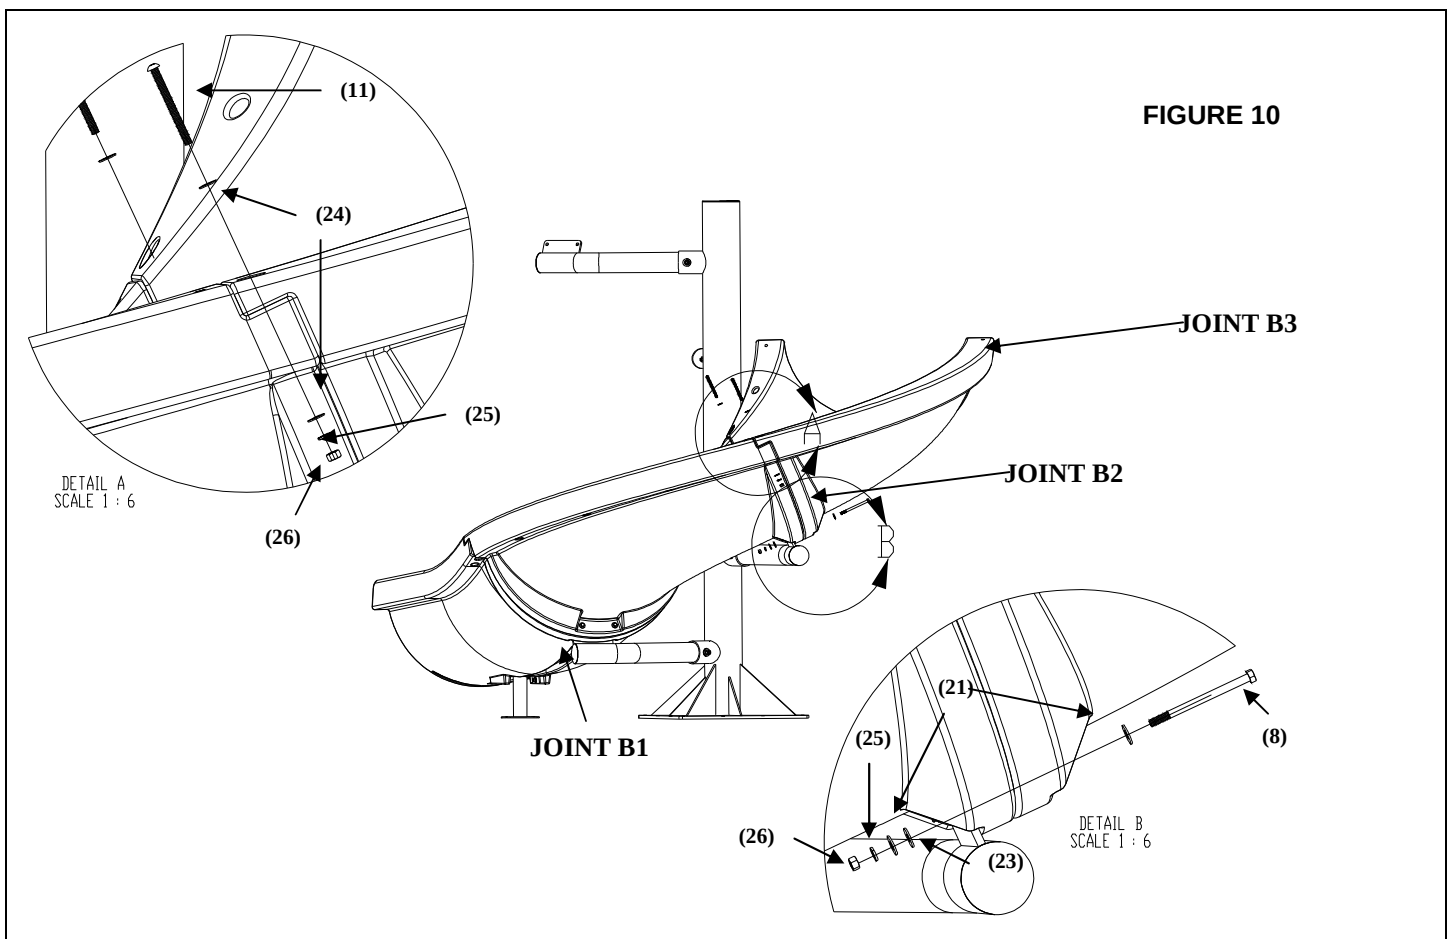

FIGURE 10
7) Attach the end of the next Runway Section (2) labeled B2 to the previously assembled runway sections. Insert the hardware through the side rails of the assembly as shown in Figure 10, Detail A. The required hardware is as follows: 3/8"-16 x 4" Button Head Cap Screw S/S (11), 3/8" Flat Washer S/S (24), 3/8" Flat Washer S/S (24), 3/8" Lock Washer S/S (25), 3/8" Hex Nut S/S (26).
Next, attach the runway parts to the 2nd branch arm as shown in Figure 10, Detail B. The hardware required for this step is as follows: 3/8" X 5.5" Hex Bolt(8), 3/8" Flat Washer (21), 3/8" Nylon Washer (23), 3/8" Flat Washer (21), 3/8" Lock Washer (25), and a 3/8" Hex Nut (26). It is important that the Nylon Washer (23) be placed against the metal branch arm bracket.